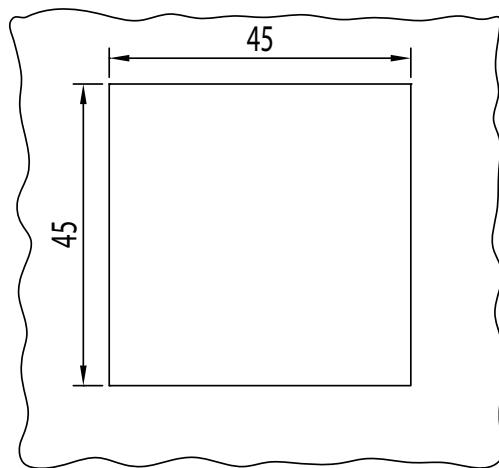

Figure 1: Cut in the panel.
- 1.- Make a cut in the panel, according to the dimensions in **Figure 1**.